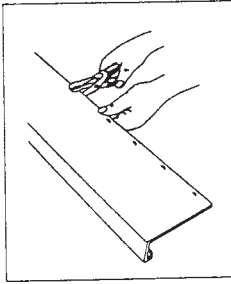
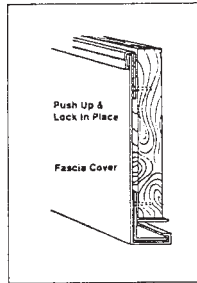

FIG. 37 Punch Snaplock Ears on Fascia
FIG. 38 Positioning of Fascia
- 11.4.2 Measure the cover required and cut the fascia cover to proper width. Punch snaplock “ears” every 6 to 12 in. (152 to 305 mm) along the top of the fascia using a snaplock punch. (See Fig. 37.) Position the panel and secure the bottom lip of the fascia over the F-channel or J-channel, (See Fig. 38.), and snap into the undersill trim.